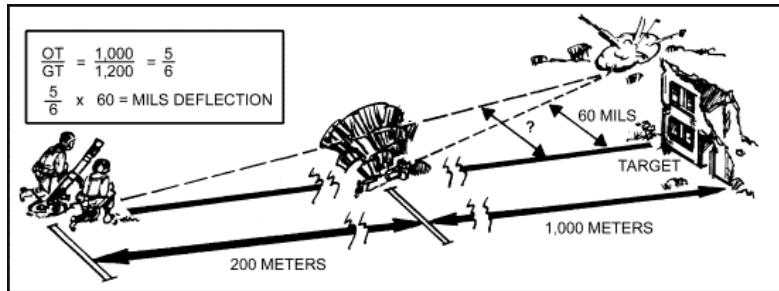

Figure 8-1. Observer more than 100 meters from mortar but within 100 meters of GT line.
(1) When the FO cannot locate within 100 meters of the mortar position, he must be within 100 meters of the gun-target line (Figure 8-1). This might prevent him from visualizing the gun-target line and getting within 100 meters of it. If the FO is attacking targets over a wide frontage, he would be required to move often but with limited movement. Therefore, the angle that exists between the mortar-burst line and GT line is not equal to the angle that exists between the observer-burst line and OT line--computations must be made to correct these differences.
(2) For example, if the FO is halfway between the mortar and target, the correction to be made on the sight is one-half his deviation spotting; if the mortar is half-way between the FO and the target, the correction is twice his deviation spotting. As other distances give other ratios, a correction factor must be applied to the number of mils spotted before ordering a deflection change. This factor is a fraction, the numerator of which is the OT distance and the denominator of which is the GT distance.
If the distance from the FO to the target is 1,000 meters, the GT distance is 1,200 meters, and the deviation of the burst from the target, as read by the FO, is 60 mils (Figure 8-1), the correction is--